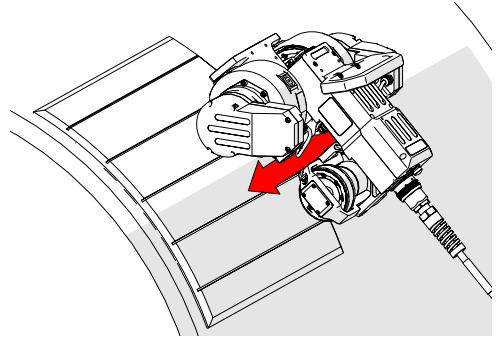

Fig. 157 - Lower crawler to mat
3. Place and hold the crawler on the installation/removal mat (Fig. 157).